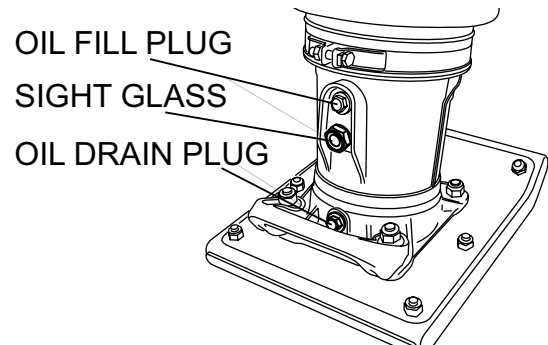

Figure 14. Oil Drain Plug
- Remove the oil drain plug on foot housing (Figure 14) and drain the oil. Refill with approximately 1.7 pint (800 cc) of